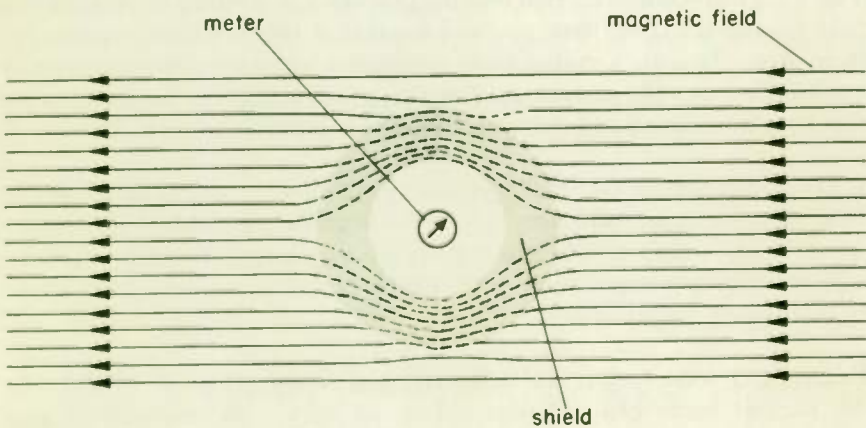

Fig. 14
3. Figure 14 shows how a magnetic shield can be used to isolate a meter from magnetic fields. Since magnetic fields follow the path of least reluctance, the material used should have a high _____.